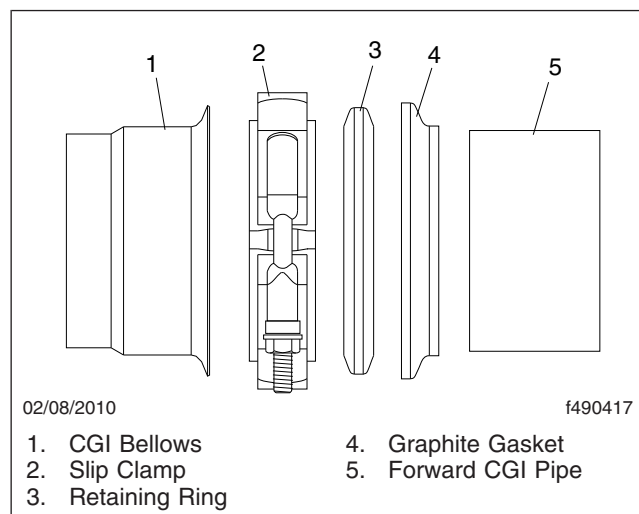

Fig. 13, Forward Facing Slip Clamp Installation
13. Install the slip clamp with the retaining ring and graphite gasket ring onto the forward CGI pipe. See Fig. 13 for proper installation.